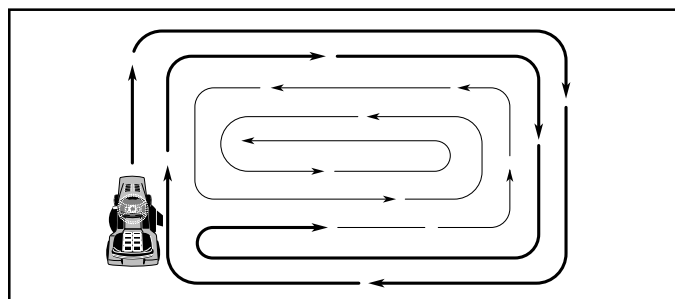

FIG. 16
- When mowing large areas, start by turning to the right so that clippings will discharge away from shrubs, fences, driveways, etc. After one or two rounds, mow in the opposite direction making left hand turns until finished (See Fig. 16).